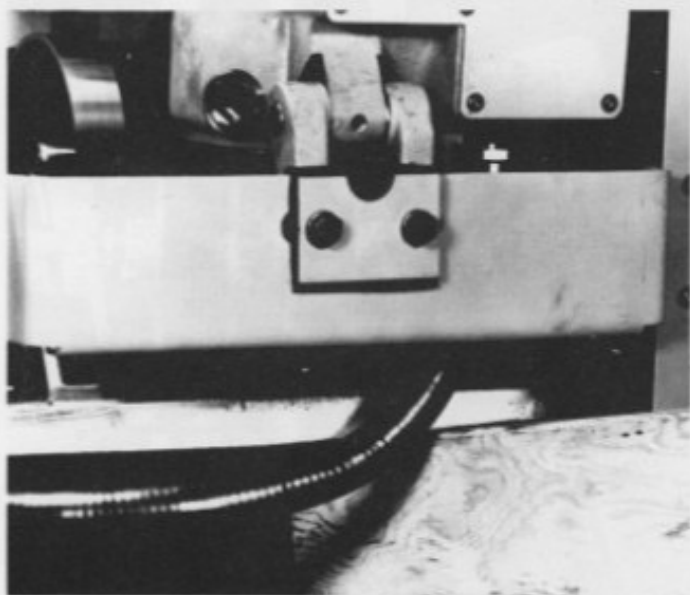

Figure 3
5. Raise front of motor mounting plate approximately 2" and block, Figure 3.